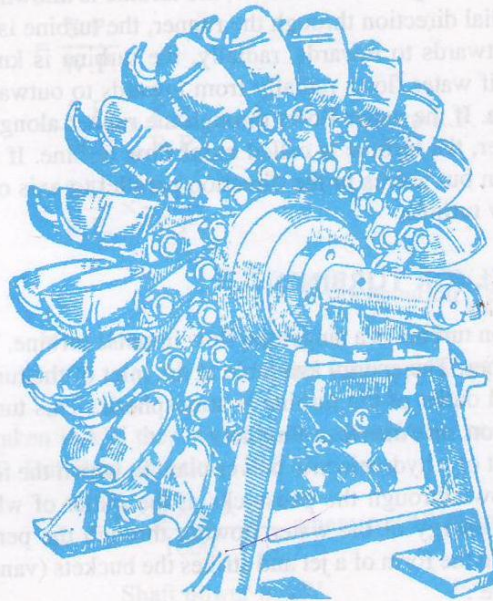

Fig. 18.3 Runner of a pelton wheel.
**2. Runner with Buckets.** Fig. 18.3 shows the runner of a Pelton wheel. It consists of a circular disc on the periphery of which a number of buckets evenly spaced are fixed. The shape of the buckets is of a double hemispherical cup or bowl. Each bucket is divided into two symmetrical parts by a dividing wall which is known as splitter.